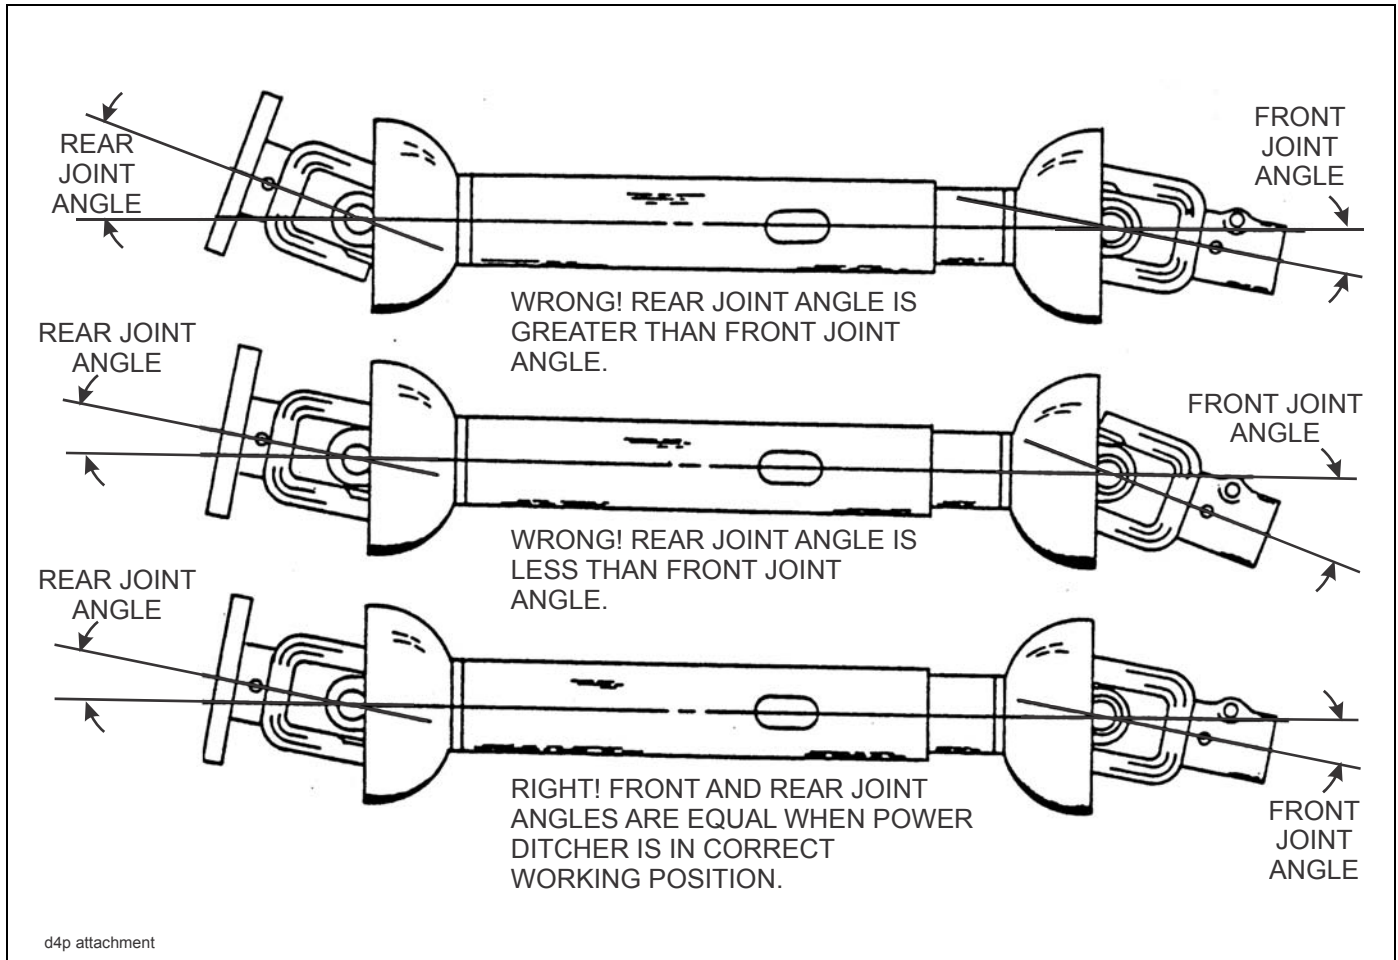

Figure 4-3: D5P/D10P Attachment to Tractor
3. The tractor's top lift link should be extended or retracted until the chain case is vertical when lowered to the normal operating position. The universal drive shaft must have an equal offset in each joint (**See Figure 4-3.**) As an example, if the front joint is offset 6 degrees the rear joint must also have a 6 degree offset. Should the rear joint be offset 4 degrees or 8 degrees the cutter head will not run at a constant speed and will vibrate excessively. Operating the ditcher in this condition will cause drive shaft, shear bolt and chain failures.